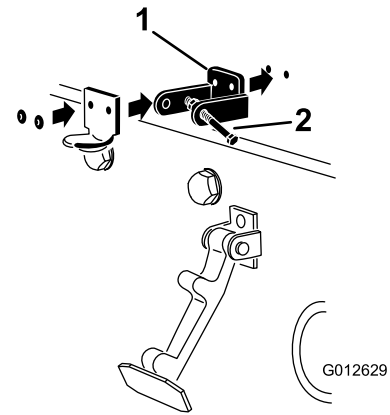

Figure 8
4. While aligning the mounting holes, position the CE lock bracket and the hood-latch bracket onto the hood (Figure 8).